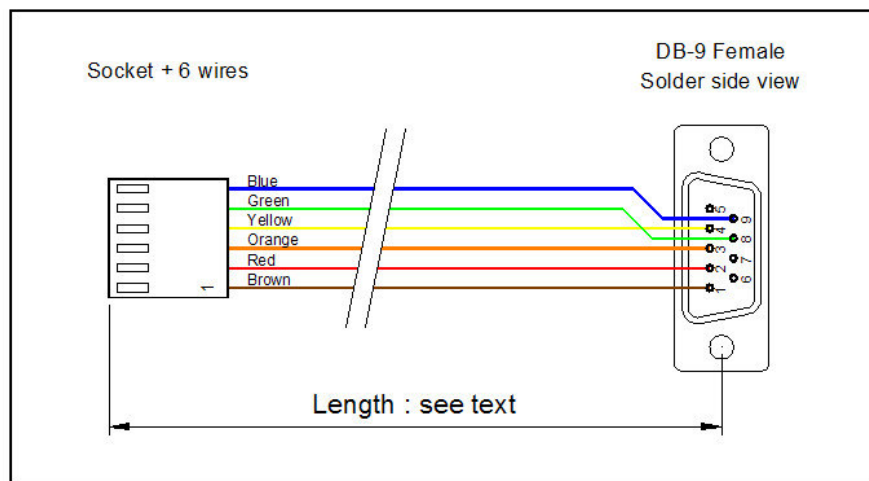

Figure 1
Start with preparing the various cables. Make 3 sets of cables using the 6-way plugs and the female DB-9 connectors. Refer to figure 1 for the electrical connection diagram.
- Solder the wires to the female DB-9 connectors as shown in figure 1